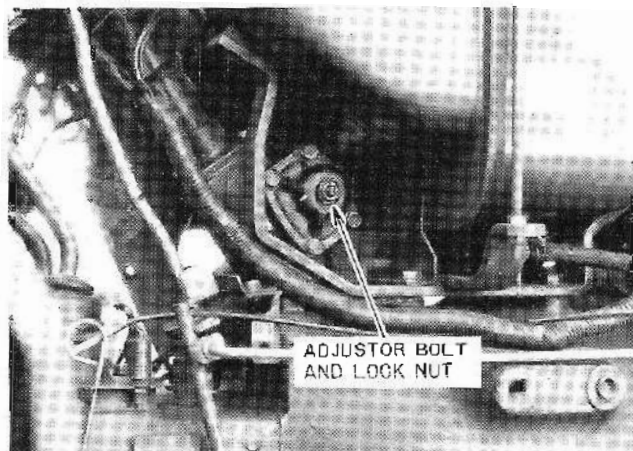

Figure 67 – Steering Wheel Free Play Adjustment
2. Loosen the adjuster locked on the right side of the steering gear box and turn the adjuster screw, see Figure 67. Turning the screw clockwise will decrease the free play, while turning the adjuster screw counter-clockwise will increase the steering wheel free play.